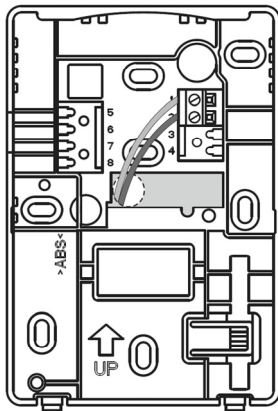

Fig. 5. Terminal connections
Attach the two wires from the "s-bus" terminal on the LYNX controller to terminals 1 and 2 of the wall module (see Fig. 5 on pg. 3). See Table 1 on pg. 3 for recommended wire type and distance.
Wire the terminal block shown in Fig. 5 as follows:
2. Insert the wire in the required terminal location and tighten the screw to complete the termination. 3. Review and verify the terminal connection wiring shown in Fig. 5.